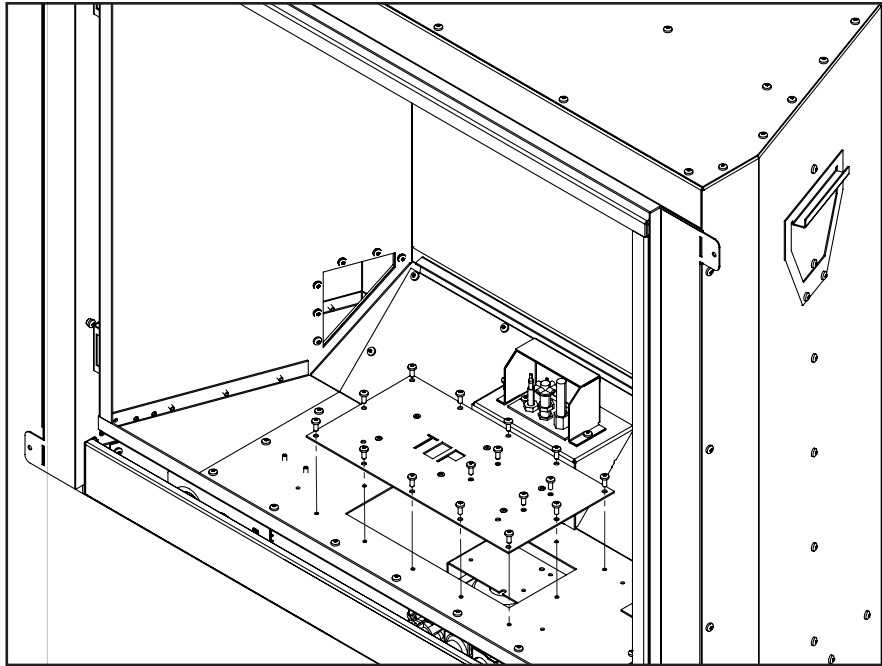

Figure 22. Removing Access Door
Step 2: Remove the Upper Air Diverter by removing (2) T-20 bolts. Remove the Lower Air Diverter.
Step 3: Remove the right and left burner stands by removing (4) T-20 bolts.
Step 4: Remove the (16) T-20 bolts retaining the access door as shown in Figure 22.